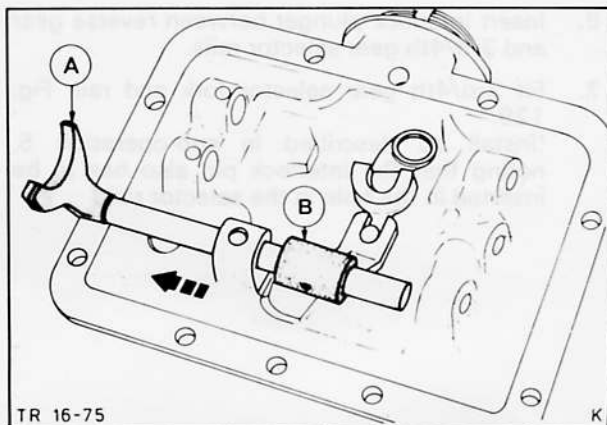

Fig. 126. A – Remove reverse gear selector fork and rail
3. Remove reverse gear selector rail and fork, Fig. 126. (See sub-operation 1 for procedure).